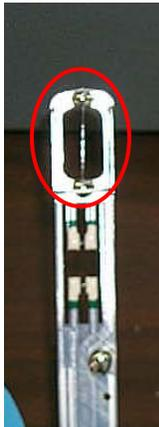

Figure 1: RS92 sensor boom (temperature sensor in red circle)
17. Inspect the temperature sensor visually for any damage (see Figure 1). If the temperature sensor is damaged in any way, do not use the radiosonde.